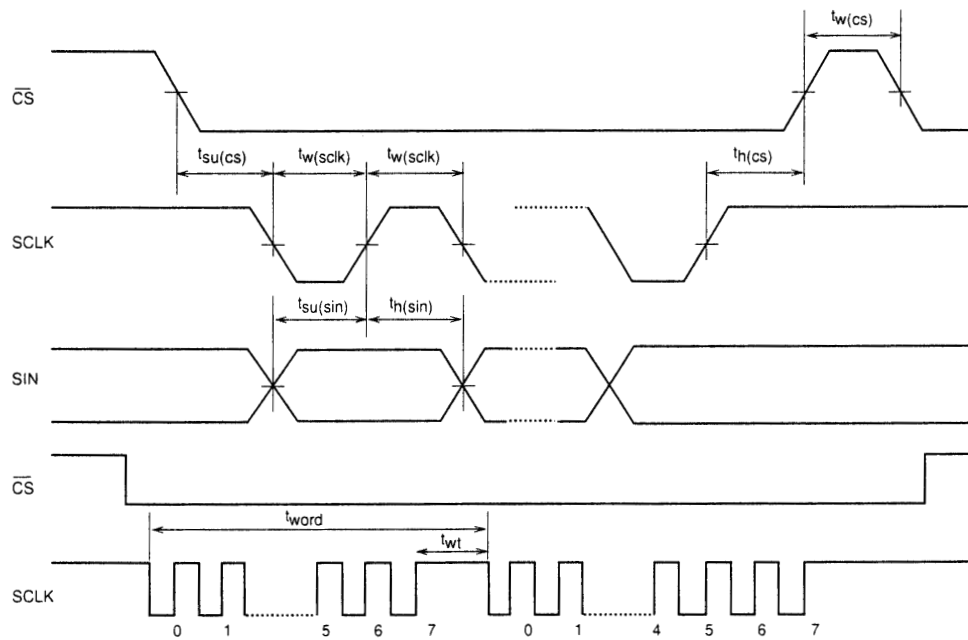

Figure 1 Serial Data Input Timing
**[Write] (Refer to Figure 1) at Ta = -30 to +70°C, VDD1 = 5±0.5 V**